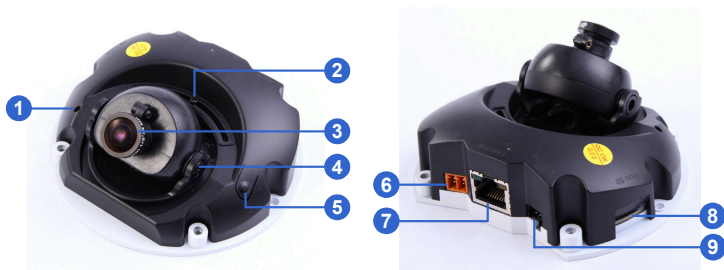

Figure 6-2
9. Insert a Micro SD card (SD/SDHC, version 2.0 only, Class 10) into the memory card slot (No. 11, Figure 6-2).